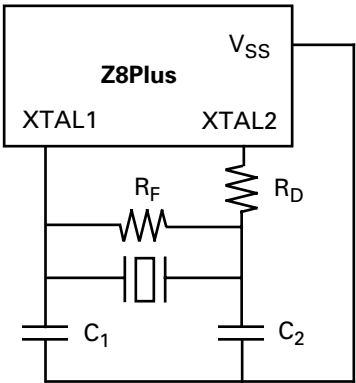
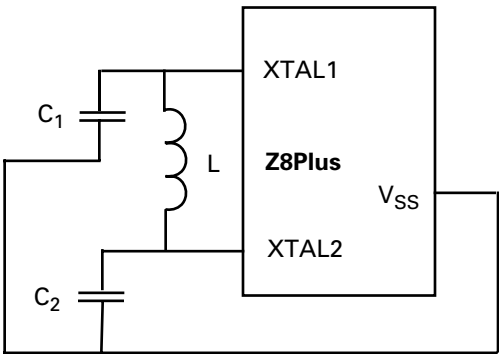
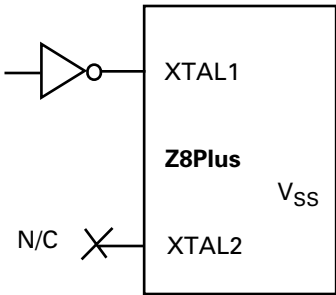

Figure 16. Crystal/Ceramic Resonator Oscillator
Figure 17. LC Clock
Figure 18. External Clock
Crystals and ceramic resonators (Figure 16) should exhibit the following characteristics to ensure proper oscillation:
Depending on the operation frequency, the oscillator may require additional capacitors,  $C_1$  and  $C_2$ , as illustrated in Figure 16 and Figure 17. The capacitance values are dependent on the manufacturer's crystal specifications.
Figure 16, Figure 17, and Figure 18 recommend that the load capacitor ground trace connect directly to the  $V_{SS}$  (GND) pin of the Z8Plus. This requirement assures that no system noise is injected into the Z8Plus clock. This trace should not be shared with any other components except at the  $V_{SS}$  pin of the Z8Plus.
The Z8Plus oscillator can use an inductor capacitor oscil-lator (LC) network to generate an XTAL clock (Figure 17). The frequency stays stable over VCC and temperature. The oscillation frequency is determined by the equation: